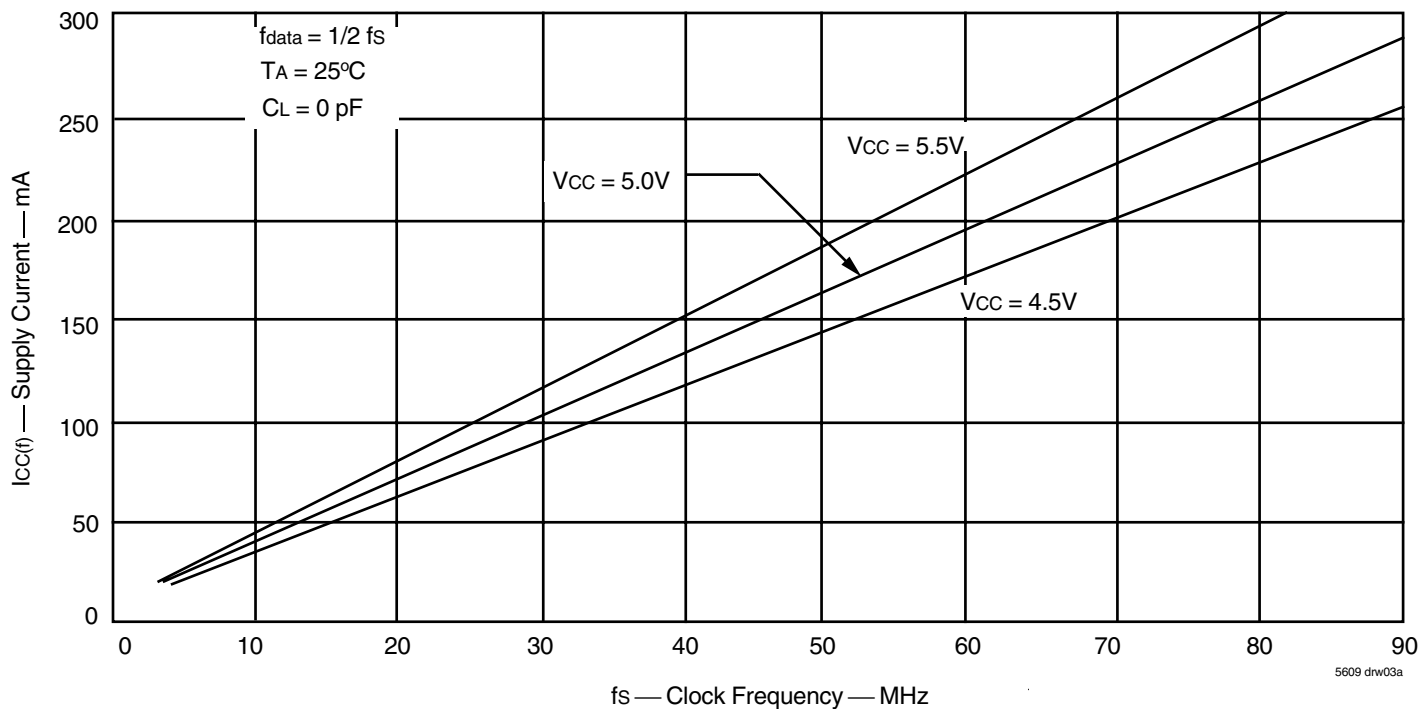

Figure 1. Typical Characteristics: Supply Current (ICC) vs. Clock Frequency (fs)
- For additional ICC information, see Figure 1, *Typical Characteristics: Supply Current (ICC) vs. Clock Frequency (fs)*.
The  $I_{CC(f)}$  current for the graph in Figure 1 was taken while simultaneously reading and writing a FIFO on the IDT723652/723662/723672 with CLKA and CLKB set to  $f_s$ . All data inputs and data outputs change state during each clock cycle to consume the highest supply current. Data outputs were disconnected to normalize the graph to a zero capacitance load. Once the capacitance load per data-output channel and the number of these device's inputs driven by TTL HIGH levels are known, the power dissipation can be calculated with the equation below.
With  $I_{CC(f)}$  taken from Figure 1, the maximum power dissipation ( $P_T$ ) of these FIFOs may be calculated by: